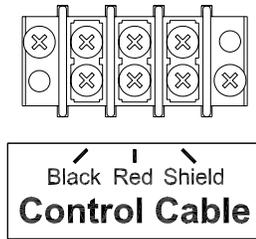

Figure 10 Control Cable Wiring Diagram
3. Connect the control cable to **Control Cable** terminal block on the access panel junction chassis according to figure 10.